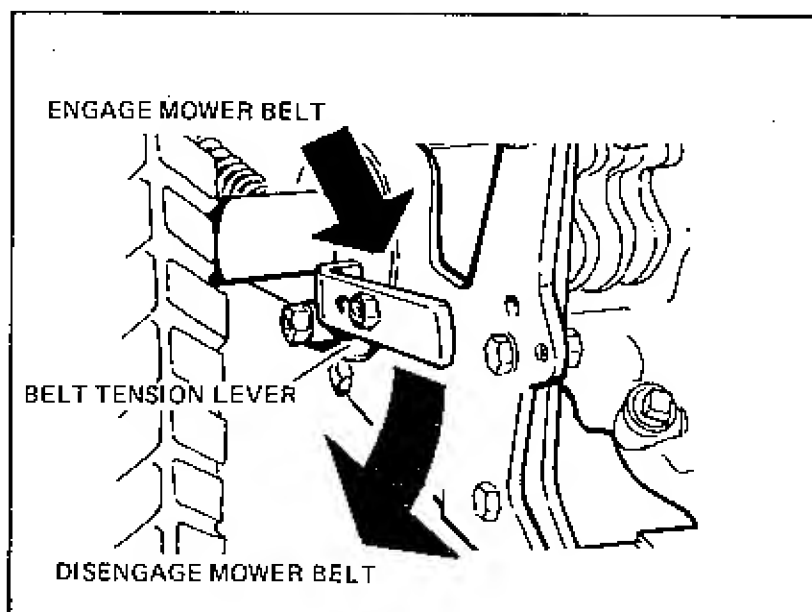
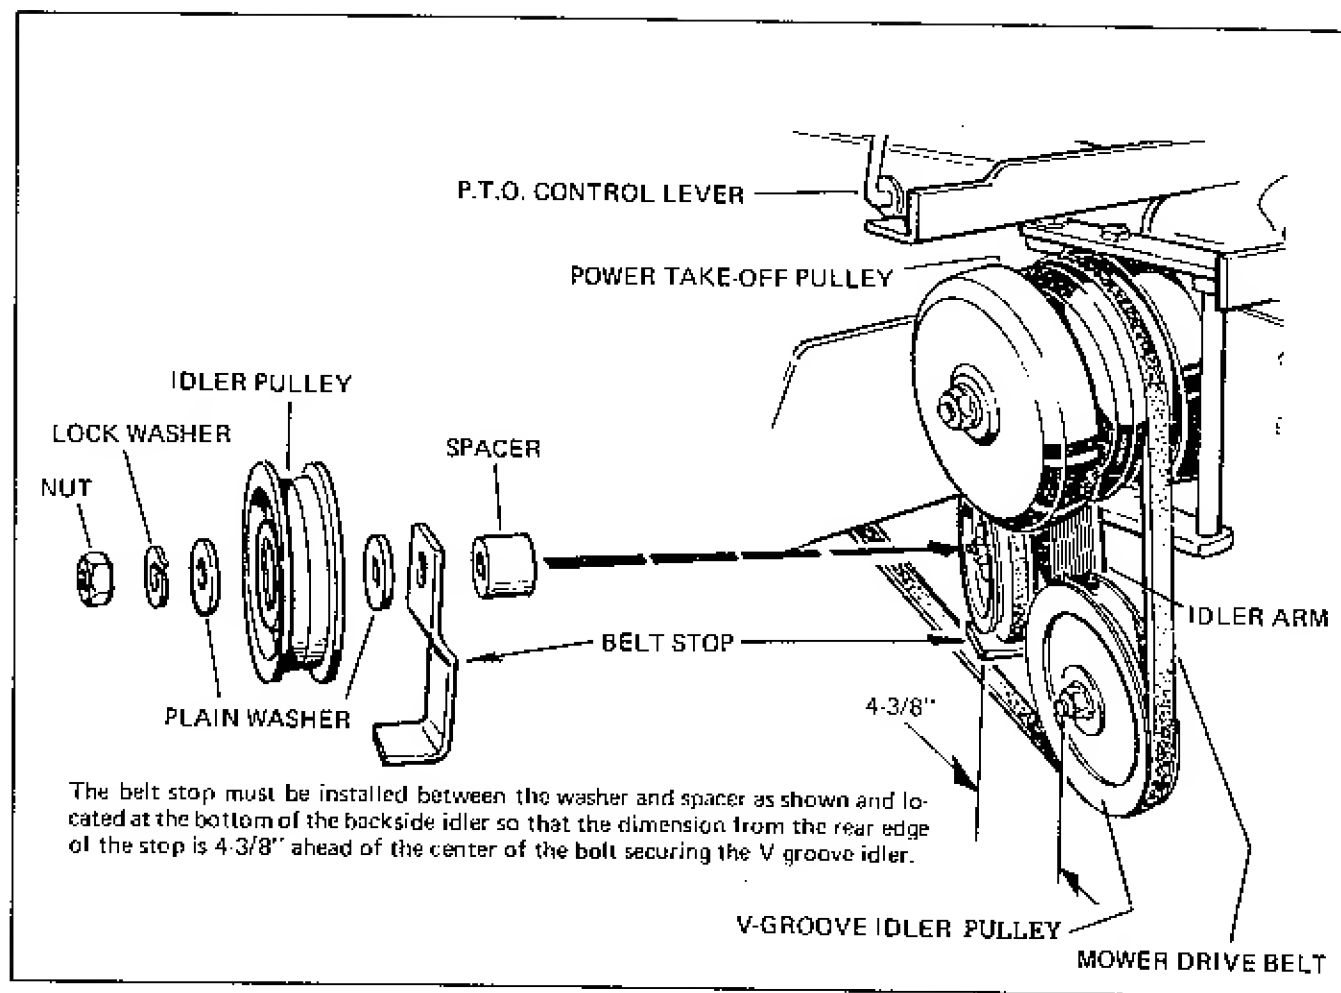

FIGURE 14
FIGURE 15
2. Push down on mower drive belt tension lever (Figure 14) and remove mower drive belt (Figure 15) from mower drive, idler, and power take-off pulleys. Note direction belt is twisted on mower drive pulley.
3. Remove nut (Figure 15), lockwasher, flat washers, and idler pulley from capscrew on idler arm assembly.
4. Install spacer (Figure 15), belt stop, flat washers, idler pulley, lockwasher, and nut on idler arm capscrew. Do not tighten nut.
5. Install mower drive belt on drive idler, and inside groove of power take-off pulleys (Figure 15). Twist belt in same direction as removed.
6. Push forward on mower drive belt tension lever (Figure 14) and lock it in position. This applies tension to belt.
7. Set belt stop (Figure 15) so that dimension from rear edge of stop is 4-3/8" from bolt securing V-groove idler pulley. Tighten idler pulley nut.
10. Maintaining power take-off control handle in engaged position, push down on belt tension lever (Figure 14). Mower blades should stop rotating and vacuum collector belt continue.